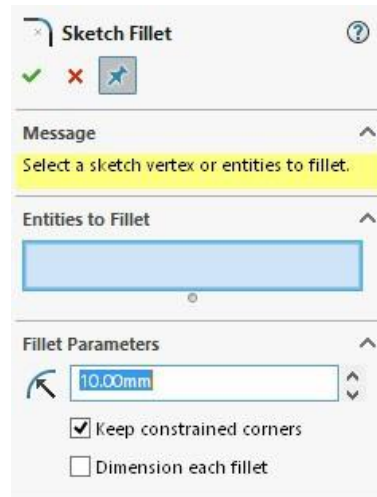

Figure 3-18 The Sketch Fillet PropertyManager
1. Choose the **Sketch Fillet** tool from the **Sketch CommandManager**; the **Sketch FilletPropertyManager** is displayed, as shown in Figure 3-18. Also, you are prompted to select the sketched entities or sketched vertex to be filleted.